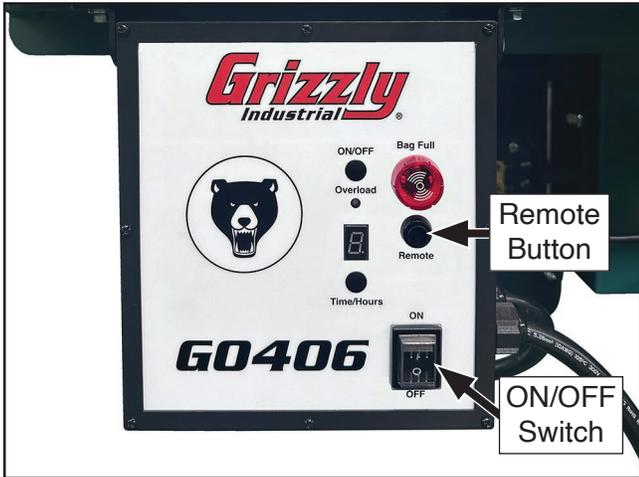

Figure 92. Location of Remote button on control panel.
2. Press and hold Remote button on control panel (see **Figure 92**) until it beeps twice to signal control panel is in pairing mode. Continue to hold Remote button through the next step.